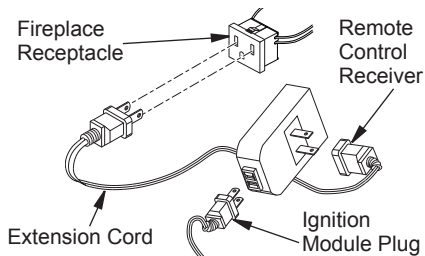

Figure 14 - Installing WRC Remote Receiver
2. The WRC model receiver does not require a battery. Receiver can be installed by plugging the short extension cord into fireplace receptacle. Plug receiver unit into extension cord. Plug ignition module plug into receiver unit (see Figure 14).